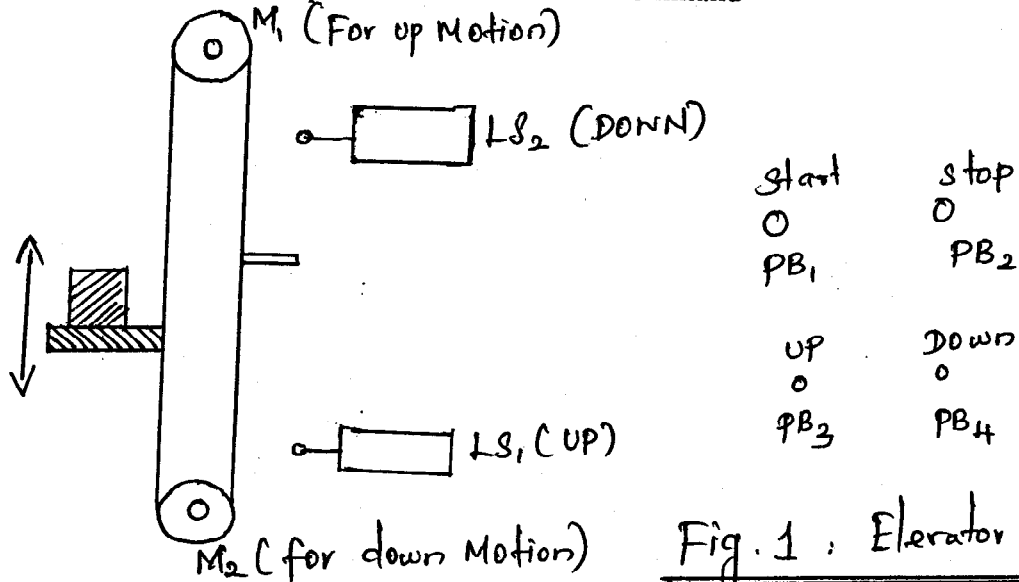

Fig. 1 : Elevator system.
3. The elevator shown in Fig.1 employs a platform to move objects up and down. The global objective is that when the UP button is pushed, the platform carries something to the up position, and when the DOWN button is pushed , the platform carries something to the down position.